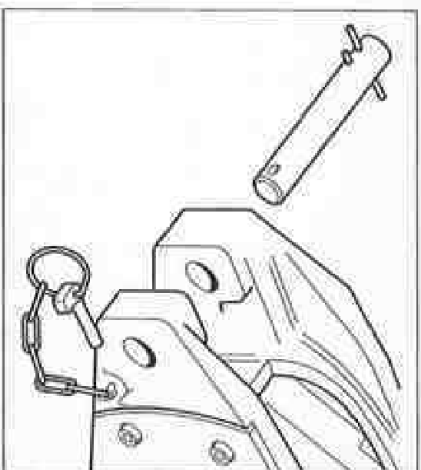

Fig. 14 - Anchor pin removed.
3. Slide the anchor pin out of the side cases (Fig. 14).